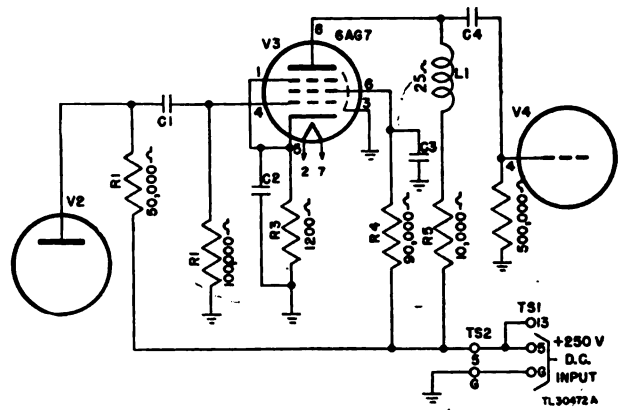

Figure 150. Schematic diagram for voltage analysis.
**d. PRACTICAL EXAMPLE OF VOLTAGE ANALYSIS.** Figure 150 illustrates a typical amplifier stage. The values of the various parts are labeled as well as the input voltages. The normal voltages at the V3 tube socket pins are:
To check the stage shown in figure 150 for an abnormal voltage measurement, measure the voltages between the socket contacts and the chassis.